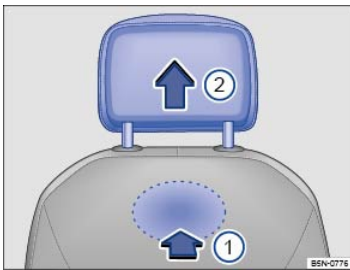

Fig. 84 Removing the front head restraint.
- Locate the circular button on the inside of the seat ⇒ *Fig. 84* (in the blue, oval area ①, not visible) and press it firmly. This requires force.
- While pressing button ①, pull the head restraint out completely in the direction of the arrow ②.